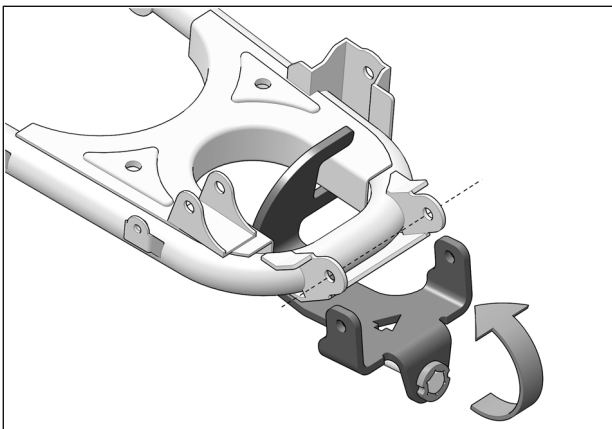

Fig. 7
7. Pivot front of bracket arm upward and align anchor bracket bolt holes with suspension arm bolt holes. See Fig. 7